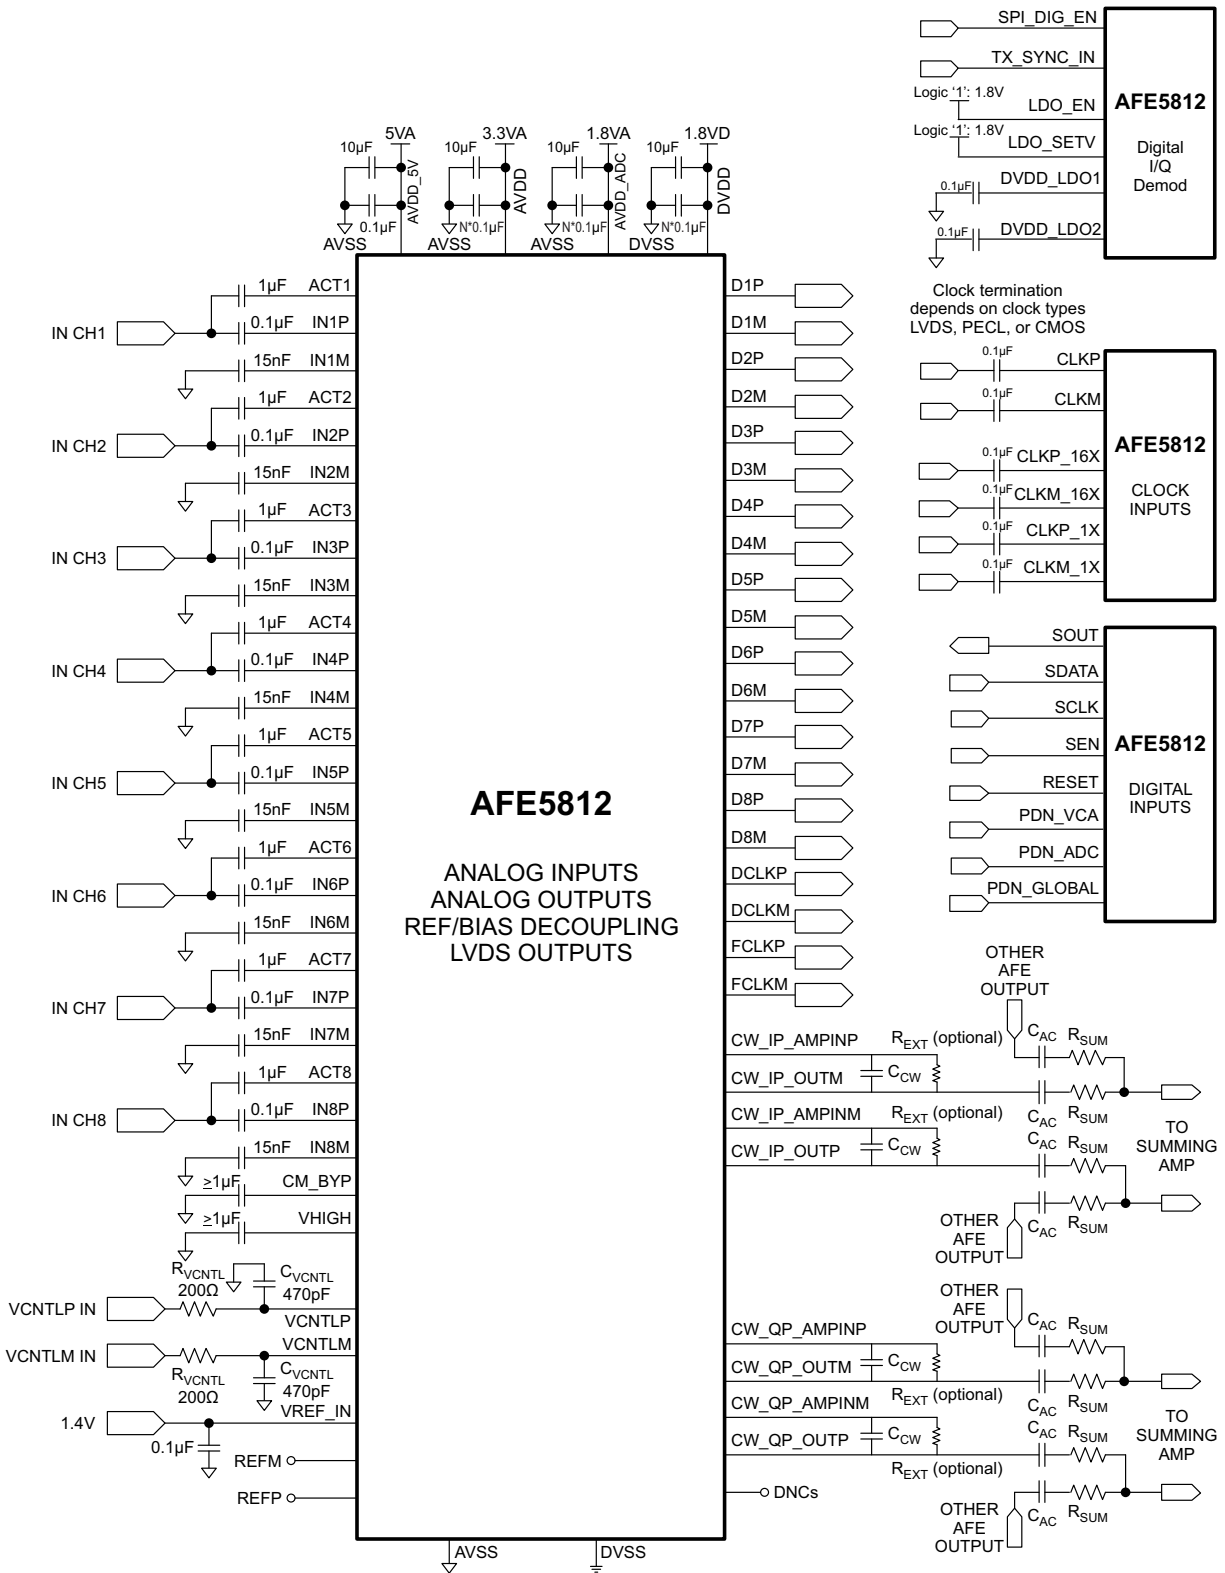

图 98. Application Circuit with Internally Generated 1.4V Demod Supply
图 98 lists a typical application circuit diagram. The configuration for each block is discussed in the following sections. 表 26 lists companion TI devices that are used to complete the analog signal chain in a system.
The device includes an integrated LNA and VCAT (which use the gain that can be changed with enough time to handle both near- and far-field systems), a low-pass antialiasing filter to limit the noise bandwidth, an ADC with high SNR performance, and a CW mixer. 图 98 illustrates an application circuit of the device.
4. Select different passive components for different device pins as shown in 图 98.